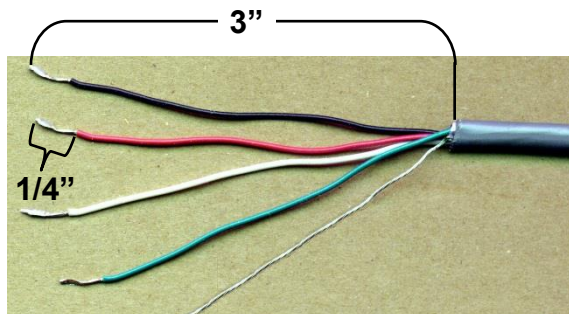

Figure No. 3
- 3.3.4. Referring to Figure No. 3, remove 3 inches of the outer insulation jacket.
- 3.6.3. Remove 3" of the outer insulation jacket then remove 1/4" of insulation from each of the wires (refer to Figure No. 3).